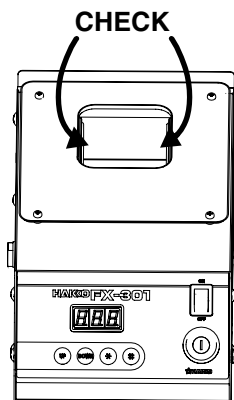
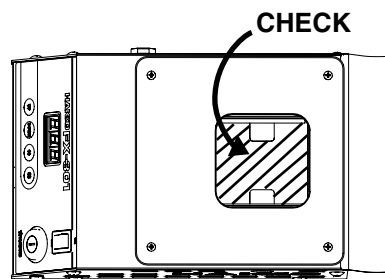

Fig.3
Fig.4
- Around the heater of the unit, insides of the heat insulator (Fig.3 and Fig.4)